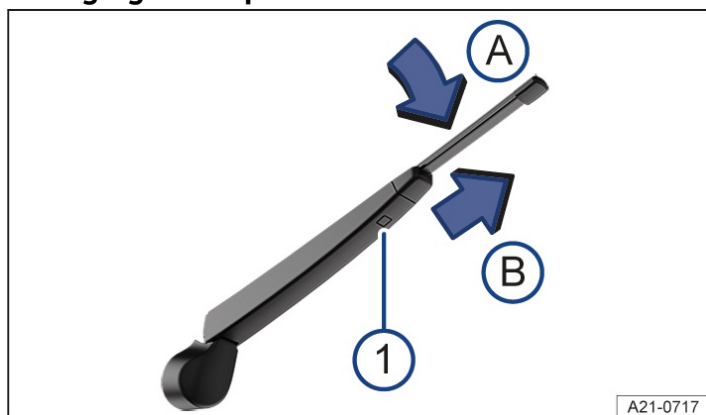

Fig. 2 Changing the wiper blade for the rear window.
3. Press and hold the release button → Fig. 2 ①.
4. Tilt the wiper blade in the direction of the wiper arm → Fig. 2 ① and pull it off in the direction of the arrow ② at the same time. You may need to use some force to do this.
5. Insert a new wiper blade with the same length and design onto the wiper arm against the direction of the arrow. Push it on until it engages → Fig. 2 ②. The wiper blade must be in folded-down position to do this → Fig. 2 ②.